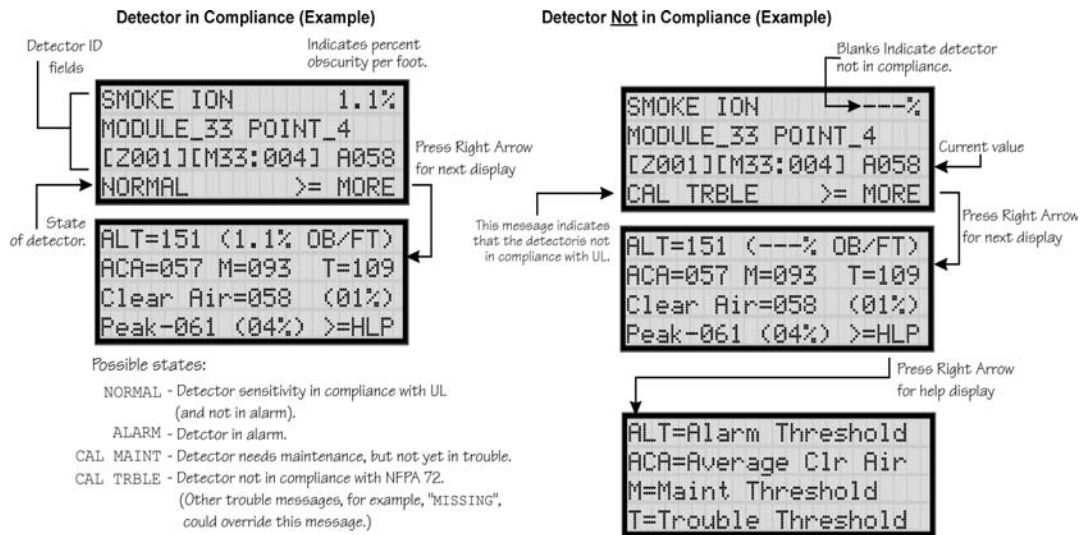

Figure 9-3 Checking Detector Sensitivity Compliance
5. A screen similar to those shown in Figure 9-3 will display.